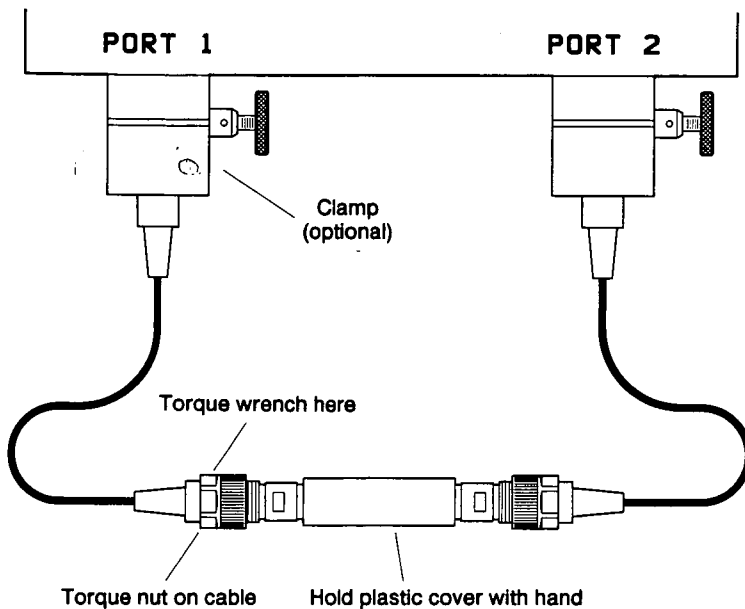

Figure 7. Torquing the Connection
9. Torque each airline-to-cable connection by holding the plastic insulation cover on the airline to keep the airline from turning while torquing the connection (136 N-cm, 12 in-lb) with a 3/4 inch torque wrench (Figure 7). It may be necessary to use a 1/2 inch open end wrench on the airline wrench flats to hold the airline stationary if the airline can not be prevented from rotating by hand.